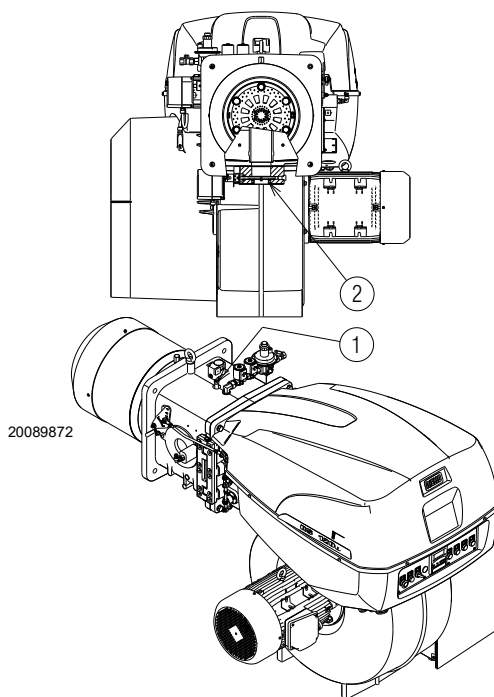

Fig. 18
Gas pressure measured at the test point 1)(Fig. 18 on page 21), with:
Pressure loss at gas butterfly valve 2)(Fig. 18 on page 21) with maximum opening: 90°.
- subtract the combustion chamber pressure from the gas pressure measured at test point 1)(Fig. 18 on page 21).
Gas pressure at test point 1)(Fig. 18) = 59.2 mbar
To calculate the required gas pressure at test point 1)(Fig. 18), set the maximum modulating output required from the burner operation:
- read, on the right (column 1), the pressure at the test point 1)(Fig. 18).
Pressure required at test point 1)(Fig. 18).